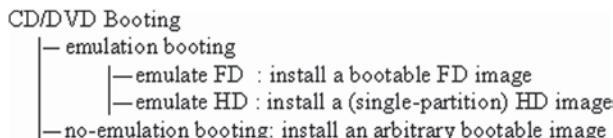

Fig. 3.6 CD/DVD boot options
(1). The El-Torito CDROM boot protocol: The El-Torito protocol supports three different ways to set up a CDROM for booting, as shown in Fig. 3.6.